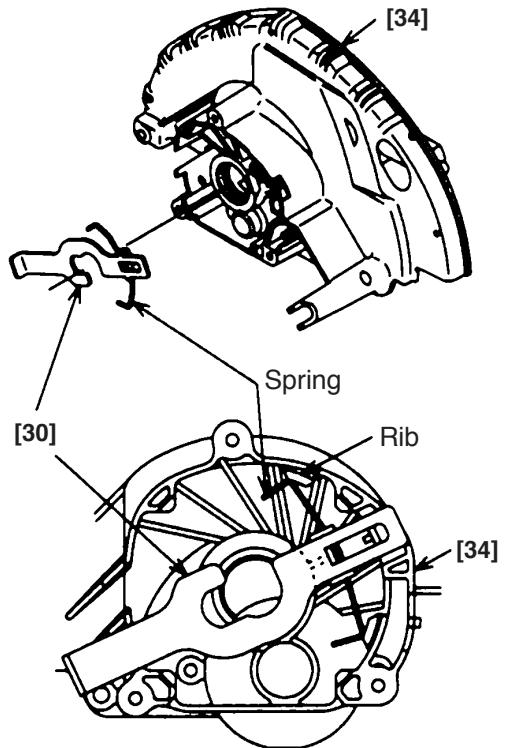

Fig. 3
(4) Reassembly of the Lock Lever [30] (See Fig. 3)
(5) Lubrication